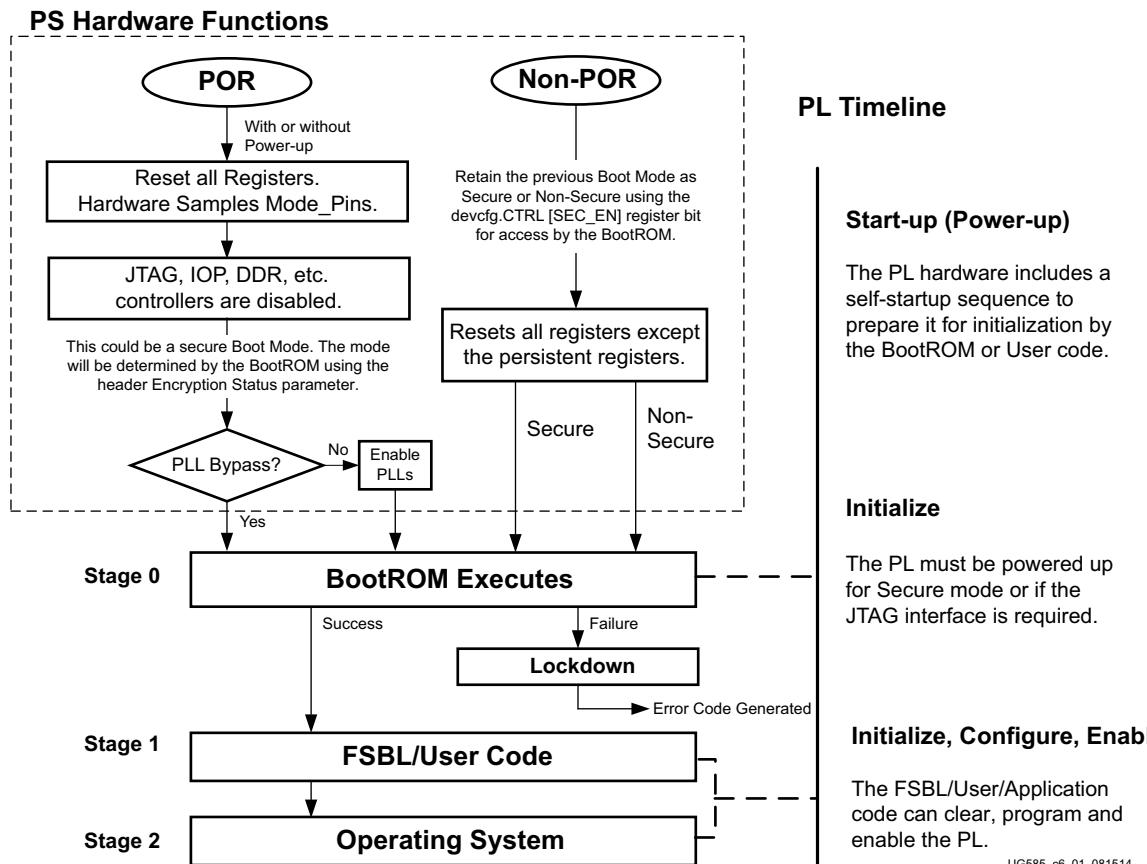

Figure 6-1: PS/PL Boot Process for Hardware and Software
- Figure 6-1
The first software to run is the BootROM code, then the FSBL/User code and system code. All of these steps are shown in Figure 6-1.
These steps and their subcomponents are illustrated in Figure 6-1.